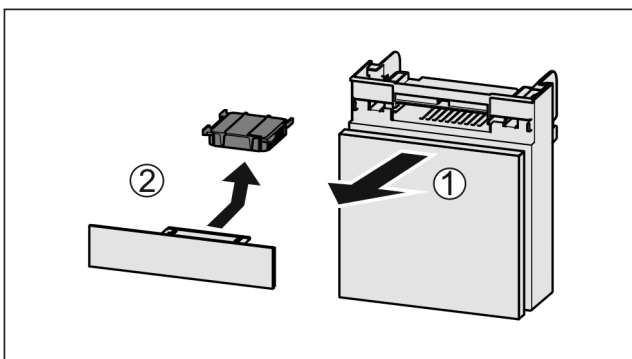

Fig. 186
- ▶ Pull out the compartment Fig. 186 (1).
- ▶ Remove the carbon filter Fig. 186 (2).